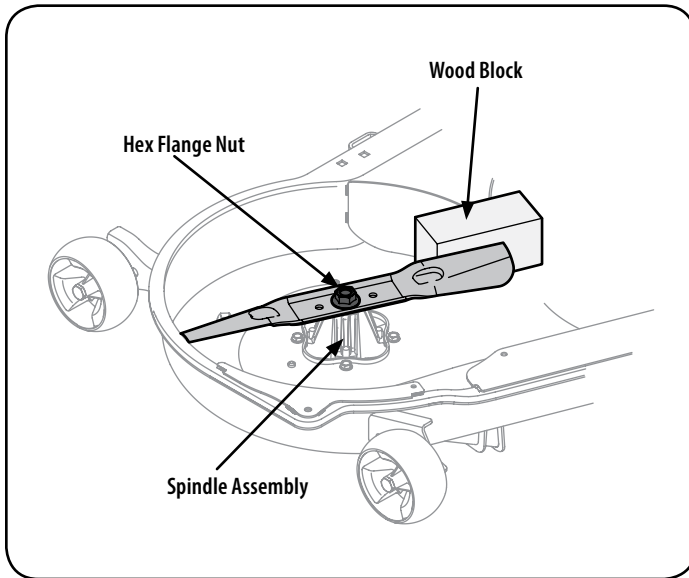

Figure 42
2. Use a $\frac{15}{16}$ " wrench to hold the hex nut on top of the spindle assembly when loosening the hex nut securing the blade. A block of wood may be placed between the deck housing and the cutting edge of the blade to help in breaking loose the hex nut securing the blade. See Figure 42.